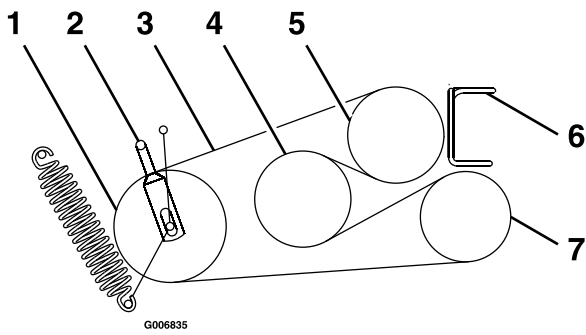

Figure 55
6. Loosen belt guides **A** and **B** (Figure 55).
8. Route the new belts onto the pulleys as shown in Figure 55.